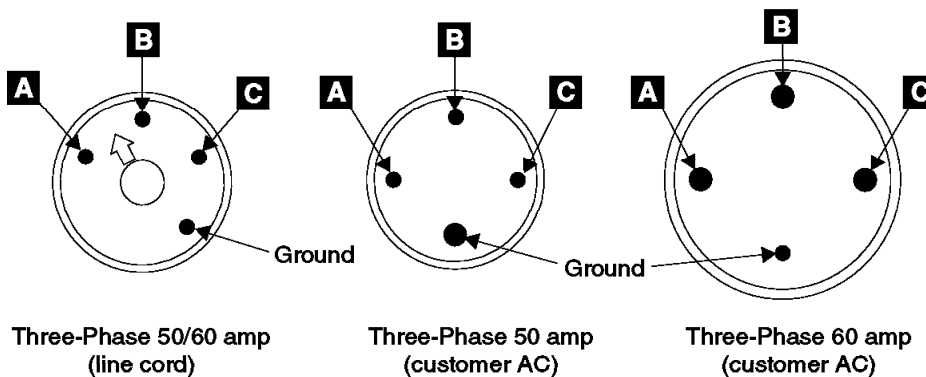

Figure 94. Three Phase Female Connector on the Mainline Power Cable (t007101I)
- ___ 4. Prepare the multimeter to read line voltage AC. For connector information, refer to figures Figure 93 on page 112 and Figure 94 on page 112.